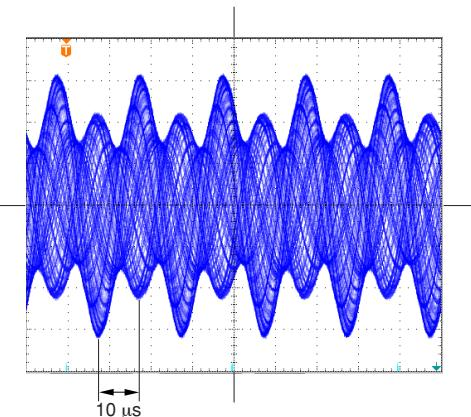
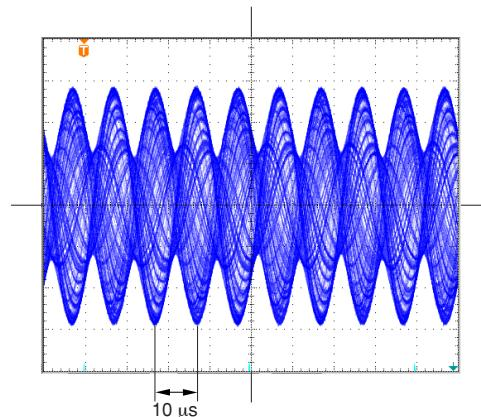

Fig. 6-2
Fig. 6-3
- ③ Turn the GBAL trimmer fully clockwise. Move the scale to observe a waveform as shown in Fig. 6-2.
When doing this, adjust the DC1 trimmer so that adjacent peaks are of uniform height, as shown in Fig. 6-3.
- ④ Set the GBAL trimmer to the fully counterclockwise position and move the scale to observe the waveform as shown in Fig. 6-2, as was done in ③. When doing this, adjust the DC2 trimmer so that adjacent peaks are of uniform height, as shown in Fig. 6-3.